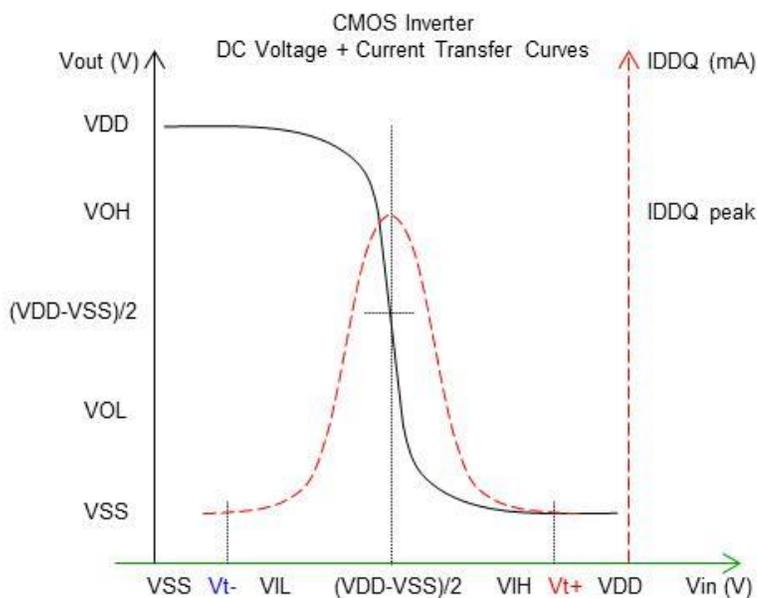
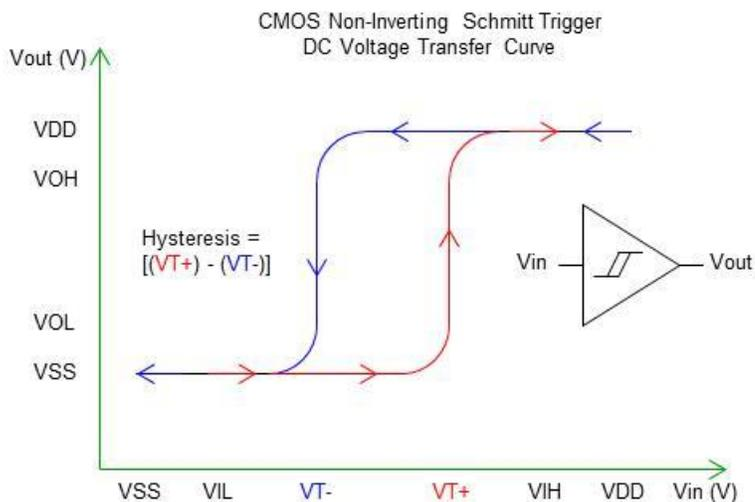

Figure 2: CMOS Inverter: DC Voltage + Current Transfer Curves
Figure 3: CMOS Non-Inverting Schmitt Trigger DC Voltage Transfer Curve
Since CMOS inputs are High-Z, any condition where the logic input is not driven to either a logic HI or logic LO state can result in indeterminate logic levels. The results of this condition are: 1) Undesired or anomalous output behavior, such as unknown logic state, or oscillation and 2) High current consumption can result if the input logic level is at or near the mid-point of the input voltage range, or between LO and HI logic levels. This is the region of maximum switching current ( $I_{DDQ}$ ) for CMOS logic circuits. The  $V_{out}$  vs.  $V_{in}$  and  $I_{DDQ}$  vs.  $V_{in}$  transfer curves for a CMOS inverter are shown in Figure 2.
The threshold voltage definitions for standard CMOS inputs and Schmitt Trigger inputs are given here and in Figure 2 and Figures 3a, 3b.
- $V_{t+}/V_{t-}$  are the threshold voltages for standard CMOS input buffers, which are determined by the properties of the P and N MOSFET devices in an inverter, or logic element, and as defined in Figure 2.
- $V_{T+}/V_{T-}$  are the threshold voltages for CMOS Schmitt Trigger input buffers, which determine the hysteresis properties of the buffer, and as defined in Figures 3, 4.
This consideration applies to both standard CMOS inputs as well as Schmitt Trigger inputs. Schmitt Trigger inputs include hysteresis for improved noise immunity and a greater tolerance to slow input rise and fall times ( $t_r$ ,  $t_f$ ), but are otherwise functionally equivalent to standard CMOS inputs. Hysteresis enables a Schmitt Trigger input to switch at different trigger voltages ( $V_{T+}$ ,  $V_{T-}$ ) for a HI to LO transition vs. a LO to HI transition. The difference between  $V_{T+}$  and  $V_{T-}$  is the hysteresis voltage, as shown in Figures 3 and 4.
**Figure 3.** General “best practices” for digital design dictates that all I/O signals are maintained at known logic values. Pull-up and pull-down resistors are frequently used for this purpose. Since the CMOS logic inputs are High-Z, and do not require current to set the input voltage, these pull-up/pull-down resistors can be high-valued (e.g.  $\sim 100k\Omega$ ), resulting in a weak pull-up/pull-down action. This is all that is necessary. After the initial charge adjustment, no DC current is required.
2. In the intermediate case, input voltage potential is between  $V_{t-}$  and  $V_{t+}$  and there is little or no noise at the floating input. In this case with the input voltage at approximately  $(V_{DD}-V_{SS})/2$ , the input buffer now dissipates high DC current (IDDQ), which is normally only flowing during high-speed switching transients. This current dissipates excess power and may damage the logic circuits over time. See Figure 2 for DC voltage and current transfer curves for a CMOS inverter.
As is seen from the curves in Figure 3, if the inverter input voltage is held at an indeterminate value (i.e. between  $V_{IL}$  and  $V_{IH}$ ), then the output voltage will also be indeterminate in accordance with the  $V_{out}-V_{in}$  relationship of the inverter’s transfer curve. This condition not only results in very high static IDDQ current, but the indeterminate inverter output voltage will also propagate to the next stage logic gate operation, resulting in similar anomalous operation for the downstream electronics.
This high current and indeterminate output conditions apply equally to both standard CMOS inputs and Schmitt Trigger inputs, since both types of inputs have similar DC voltage transfer curves and are based on the CMOS inverter circuit. This means that both device types can experience high IDDQ current when inputs are near  $(V_{DD}-V_{SS})/2$ . The peak IDDQ current for a Schmitt Trigger input will be at a different input voltage value than for a standard CMOS input. This is due to the differences between  $V_{t+}/V_{t-}$  threshold voltages for the standard CMOS inputs (see Figure 2) and  $V_{T+}/V_{T-}$  Schmitt Trigger threshold voltages (see Figures 3, 4). The peak IDDQ current will, however, still occur close to the midpoint of the VDD power supply voltage as in the case of the standard CMOS inverter circuit.